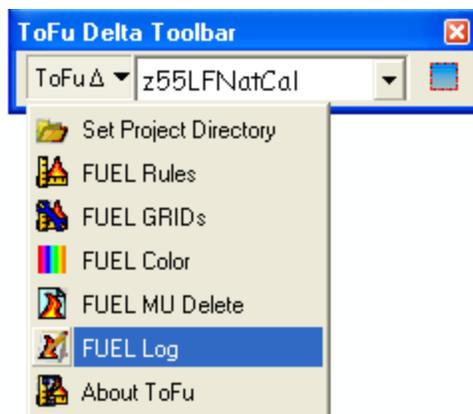

Figure 7-43. Use the drop-down menu to open the FUEL log file.
- Select **FUEL Log** on the ToFuΔ drop-down menu to view the text file (fig. 7-43).